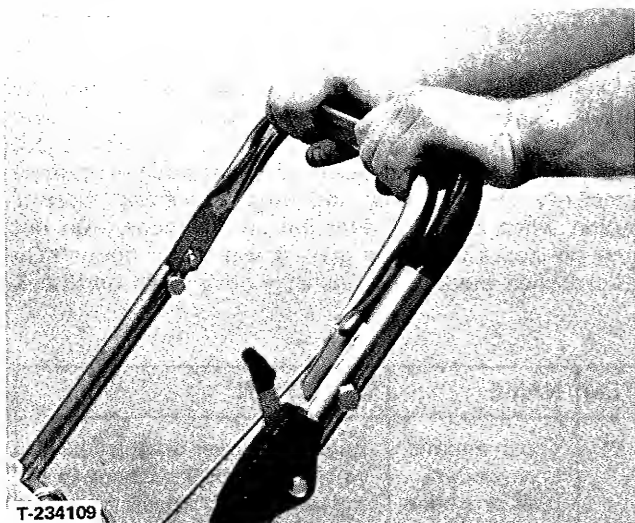

FIGURE 2 - ENGAGING CONTROL BAR
7. On self-propelled models, squeeze the control bar toward the handle. Hold the control bar against the handle bar while mowing. See Figure 2. For trimming, the mower may be pushed forward manually, using only the mower handle.